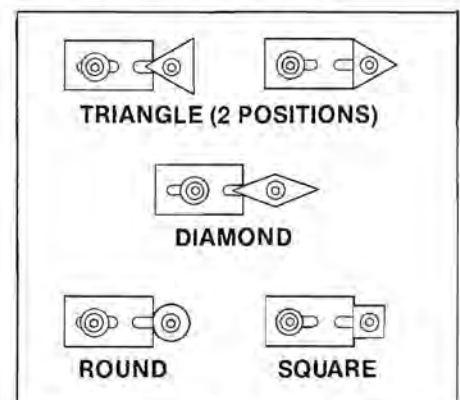

Figure 4. Mounting positions of carbide cutters and cutter guides.
6. **Install the carbide cutter and cutter guide.** Attach the triangle carbide cutter (57), with the bevel down, to the cutter support (58) with screw (56) finger tight. Any of the cutter's three points or flats may be positioned as shown in Figure 4. With the open slot end of the cutter guide (55) pressed firmly against a flat side of the carbide cutter, use the 7/64" Allen wrench to attach the cutter guide securely to the cutter support with screw (53) and washer (54). Then, securely tighten the screw (56) of the carbide cutter.